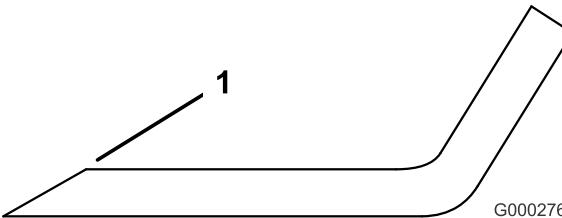

Figure 73
- Sharpen the cutting edge at both ends of the blade (Figure 73). Maintain the original angle. The blade retains its balance if the same amount of material is removed from both cutting edges.